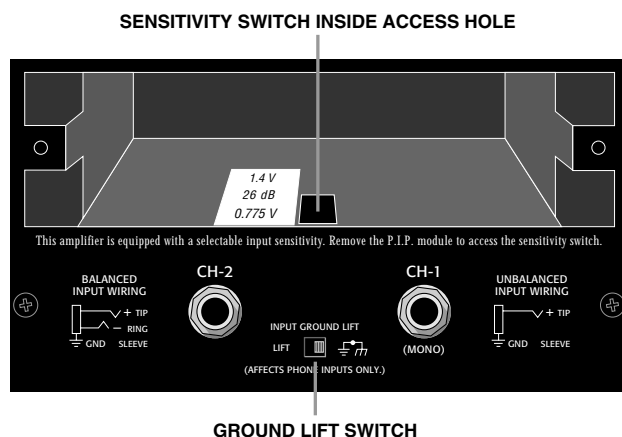

Fig. 4.5 Input Sensitivity and Ground Lift Switches
3. Locate the access hole for the sensitivity switch inside the chassis opening (see Figure 4.5).